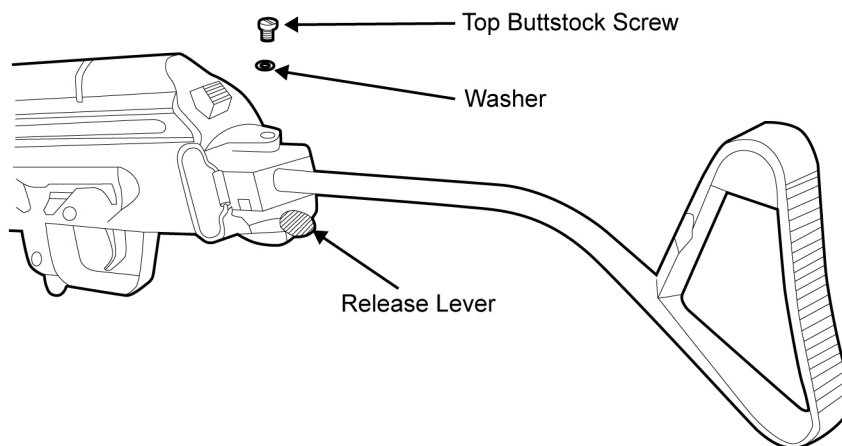

Figure 34. Removing the Top Buttstock Screw and Washer.
- a. Ensure that the side folding buttstock is extended. To do so depress the release lever and swing it from the right side of the receiver to the rear until it snaps into place. Remove the top buttstock screw (which may be staked) and washer. Refer to Figure 34.